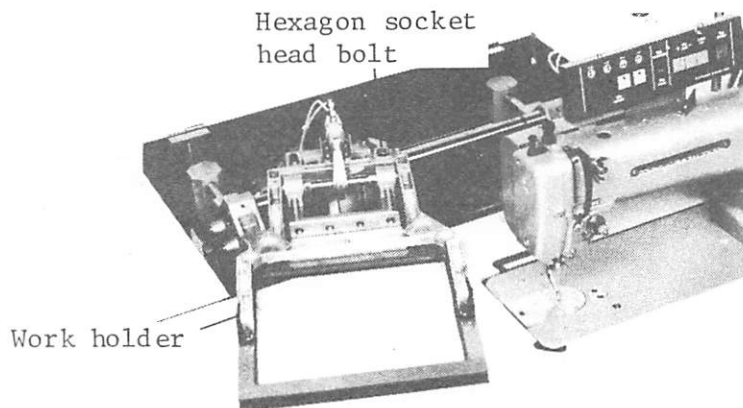

Fig. 4.1
4.4 Loosen four hexagon socket head bolts, used to secure the work holder, with furnished hexagon key wrench and turn counter-clockwise the work holder (Fig. 4.1).